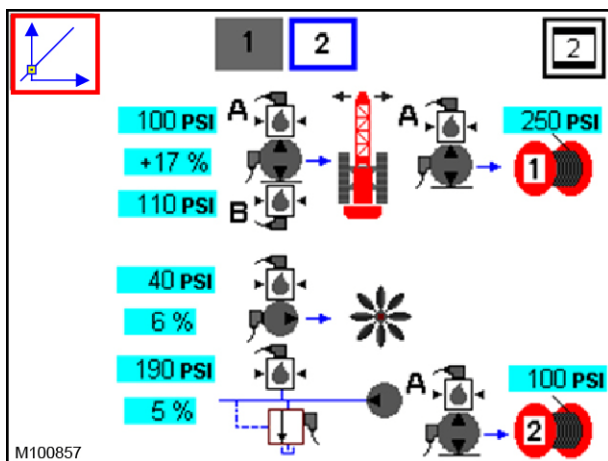

Figure 2-30. Test Screen 1
2. At the display, navigate to test screen 1 or 2 and run the pressure transducer test (Figure 2-30).
3. At the display, navigate to test screen 1 or and run the calibration test (Figure 2-30 on page 2-33).